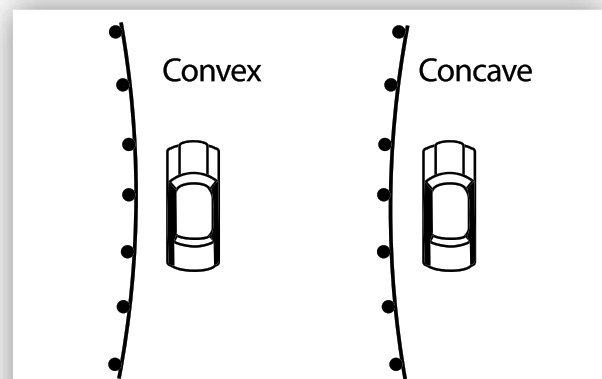

Figure 11: Curvature Orientation
5. Determine the curvature orientation from Figure 11.